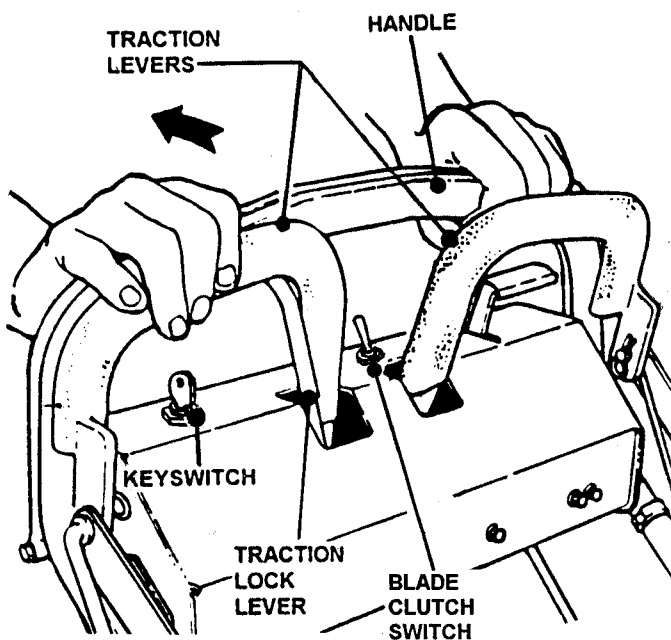

FIGURE 2
1. Squeeze both Traction Levers firmly against the Handle to **STOP** forward or reverse motion. Using your right hand thumb, push the Traction Lock Lever full forward into Park Brake position. See Figure 2.
2. Pull Blade Clutch Switch backward to the **OFF** position. See Figure 2.
4. **STOP Engine** by turning Key Switch to **OFF** position. See Figure 2.
1. Pull both **TRACTION LEVERS** toward the Handle to **STOP** forward or reverse motion, while pushing the Traction Lock Lever full forward until it locks both Traction Levers in Park Brake position. See Figure 2.
2. Pull the Blade Clutch Switch backward to the **OFF** position. See Figure 2.
- 2a. Pull both Traction Levers toward the Handle while pushing Traction Lock Levers forward until it **Locks** the Traction Lock Lever in Park Brake Position. Refer to Figure 2.